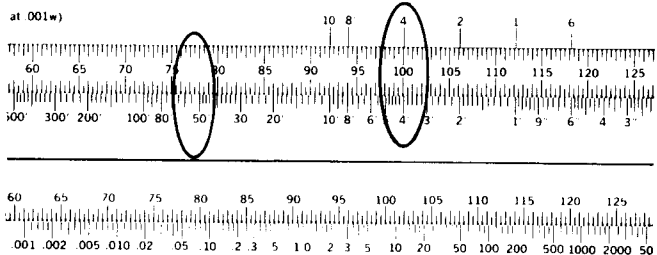

Figure 9
8. Finding 53 feet on the Distance Feet scale, read directly above it on the dB-SPL scale 77.5 dB. $100 \text{ dB} - 77.5 \text{ dB} = 22.5 \text{ dB}$ loss for a D_2 distance of 53 feet. (see Figure 9).